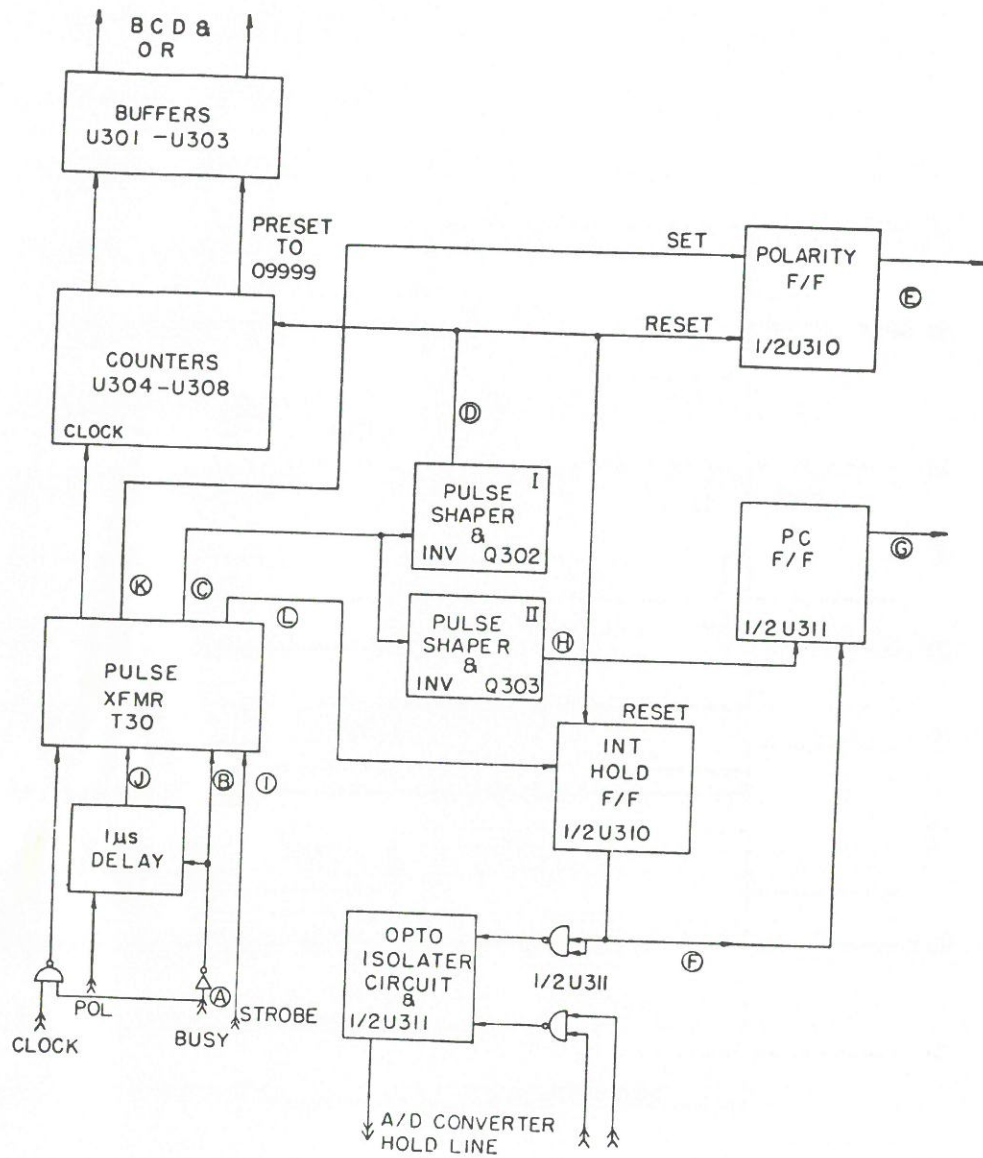
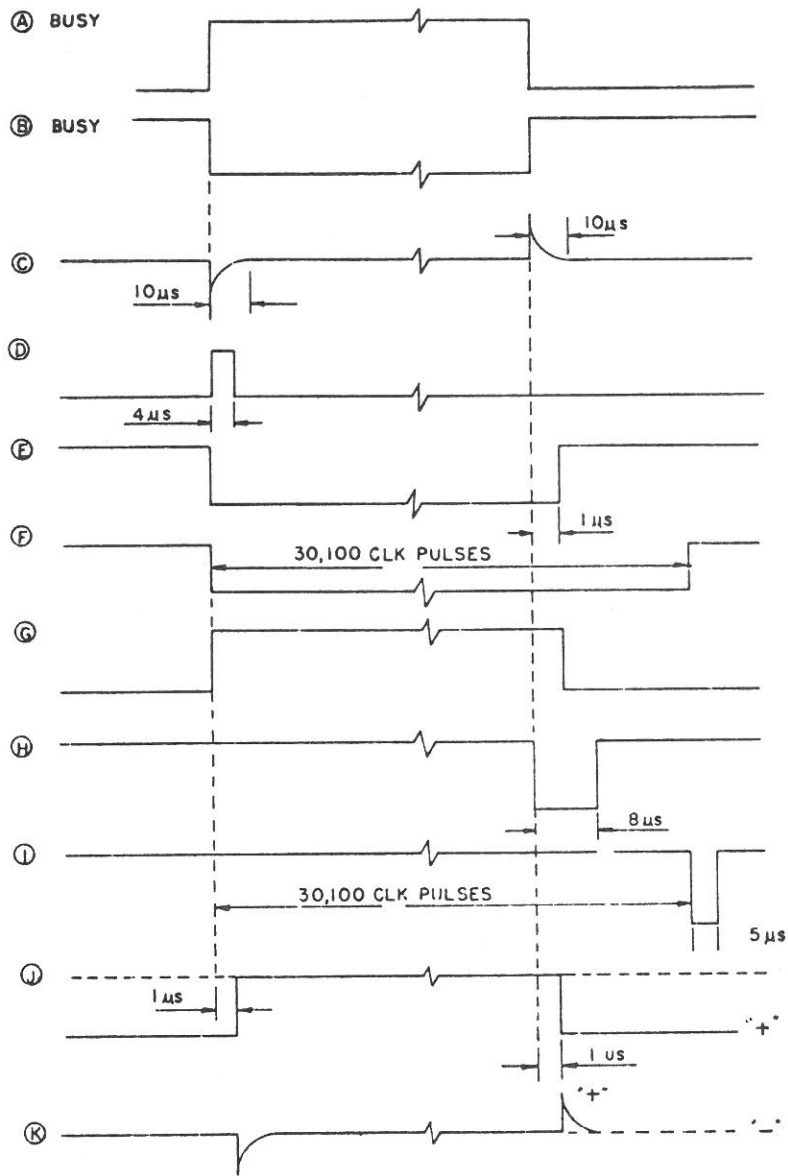

Figure 6-5. BCD Block Diagram
Figure 6-6. BCD Waveforms
6.8 BCD Operation - Isolated, buffered, parallel BCD is provided by an optional circuit board, shown in block form in Figure 6-5. Pertinent waveforms are shown in Figure 6-6 . A detailed schematic is given in Section 7 as Figure 7-3.